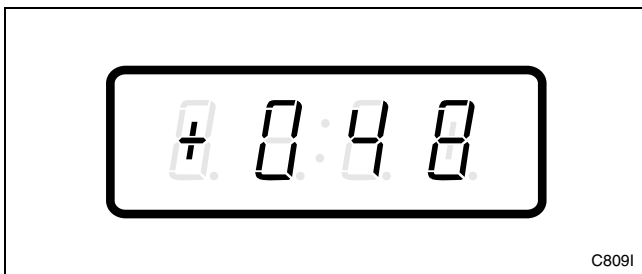

Figure 175
- Press the DELICATES (+) or the COLD (-) keypad to scroll through the programmable options until “+048” appears in the VFD. Refer to *Figure 175*.